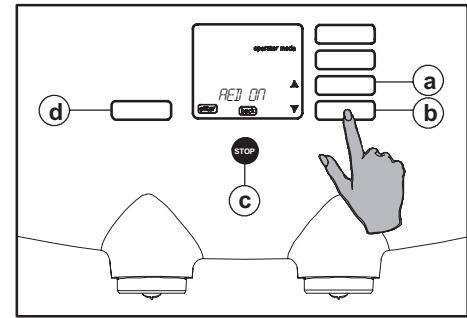

Fig. 67 Selecting "AED ON" or "AED OFF"
3. Press the enter button (fig. 67 d). The display shows the option selected (fig. 67).
4. With the scroll buttons , choose "AED ON" or "AED OFF" (fig. 67 a or b) [AED = Almost Empty Detection].
5. Press the enter button (fig. 67 d) to confirm the setting.
6. Then press the stop button (fig. 67 c) to end the programming.